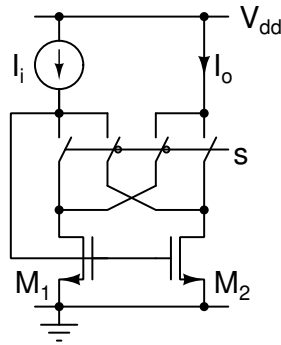

Figure 2.4: Problem 2.4.
2.4. In Fig. 2.4, the switches are controlled by the signal s . The switches without the bubble are on and off for $s = 1$ and $s = 0$ respectively. The opposite is true for the switches with the bubble. The two transistors have the same W, L . They are in the saturation region. Neglect λ . Sketch the circuit for $s = 1$ and $s = 0$. Determine the following: